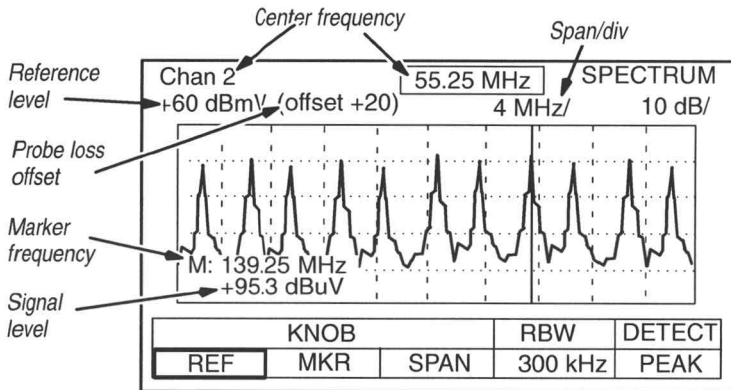

Figure 1-2: Spectrum Display with Knob Assigned to Reference Level.
1. Press the front-panel SPECT key to access the spectrum mode display, as shown in Figure 1-2.